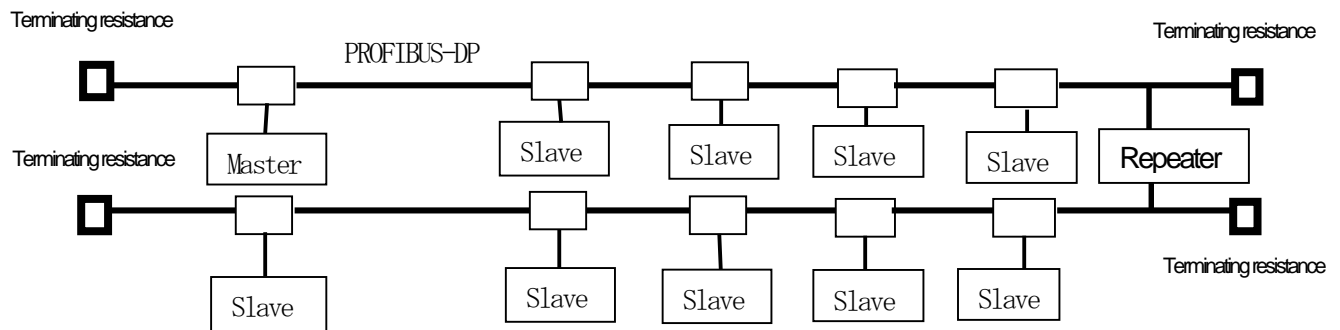

Figure 6.1.1 Connection configuration
- SI unit can be connected to the positions shown as slave in Figure 6.1.1.